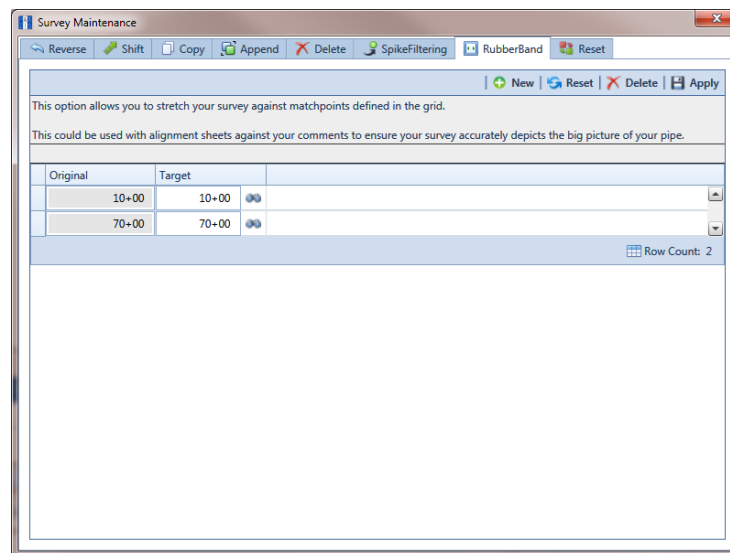

Figure 7-97. Rubber Banding
- 5 Click  **Survey Maintenance** to open the *Survey Maintenance* dialog box. Then click  **RubberBand** (Figure 7-97, page 309).